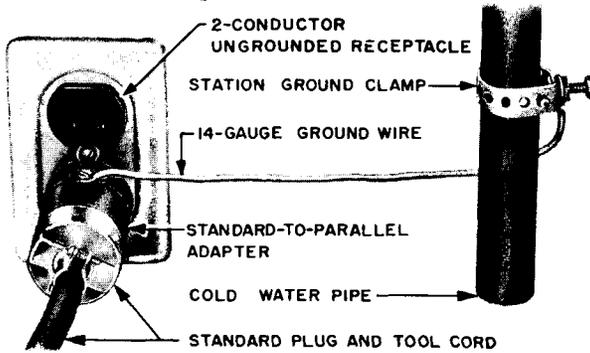

Fig. 4 — Ungrounded 2-conductor Receptacle
4.05 The pigtail grounding terminal on adapters or attachment plugs should be connected to a suitable conductor. As shown in Fig. 4, 14-gauge ground wire or the B or C grounding cord will be satisfactory.
- Attach ground wire to ground terminal on plug or adapter and to the grounded object selected, making certain a good metallic connection at both ends is accomplished (see Fig. 4).